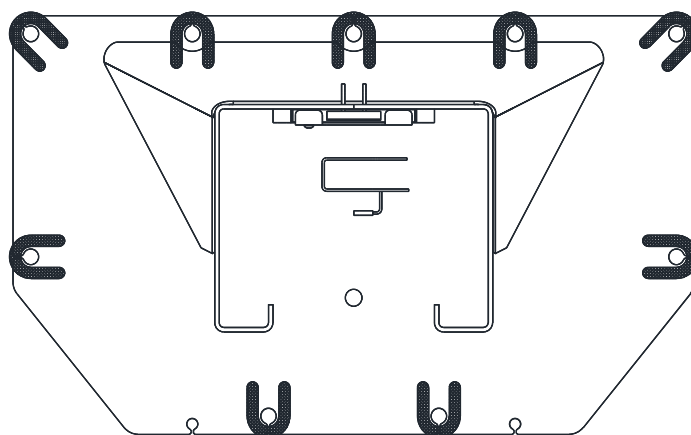

Fig. 5 – Column Shimming
- 20) Repeat steps 15 thru 17 for the two (2) anchors under each carriage.
- 21) Shim both columns to plumb using the shims provided as shown in **Fig. 5**. **DO NOT** shim more than 1/2" at any given point. Use a level no less than 24" in length to plumb columns.
- 26) Check idler column shimming. Use additional shims (*see Fig. 5*) to remove any gaps that may have been created while installing overhead beam. Tighten anchor bolts and re-check column for plumb. Torque to 150 foot-pounds.